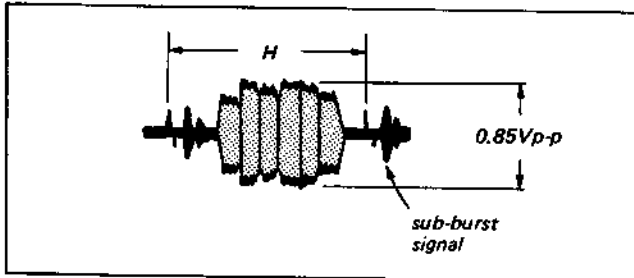

Fig. 4-35. Chroma level adjustment
- (3) Adjust RV21 for a chroma signal level of  $0.85$  Vp-p. (Fig. 4-35).